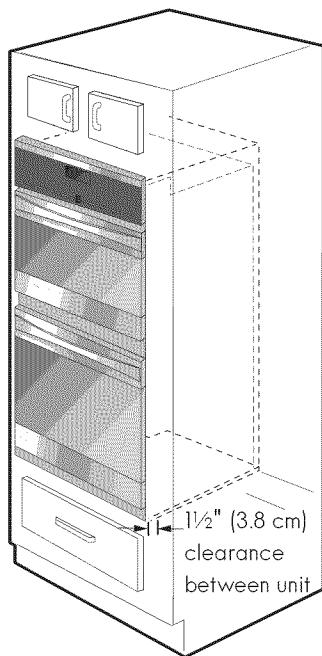

Figure 5
- 5 Insert the unit into the cabinet opening. Slide unit inward leaving $1\frac{1}{2}$ " (3.8 cm) clearance between the unit and front of cabinet (see Figure 5).